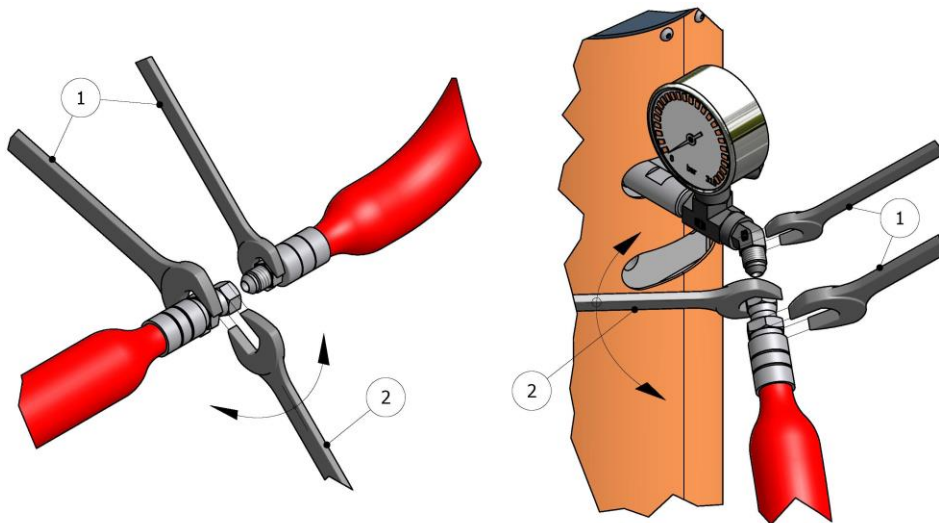

Figure 3. Method of union of the Hoses
WARNING! To join the hoses together or to connect them to the heaters or the gun, use two spanners to hold the parts to be joined (1) and a third spanner to tighten or loosen the connecting nut (2) as shown in the illustrations in Figure 3 on page 19. The connections must be tightened to a torque of Table 1 in pg. 17.